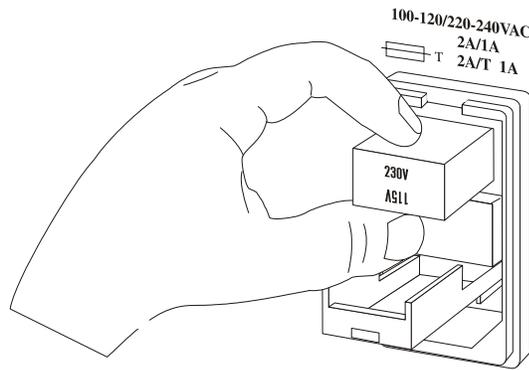

Figure 11. Re-installing the fuse cartridge.
4. Re-insert the cartridge and reassemble the input module as demonstrated in Figure 11.